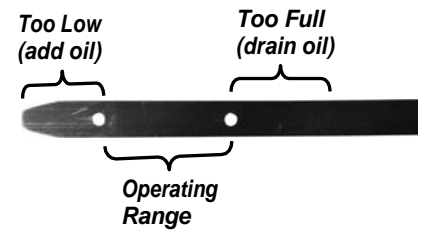

Figure 21a: WC475 Model
- If the oil level is low, continue adding a few ounces of oil at a time, rechecking the Dipstick until the oil reaches the fill mark (**Figure 21a and 21b**). Be careful not to overfill.